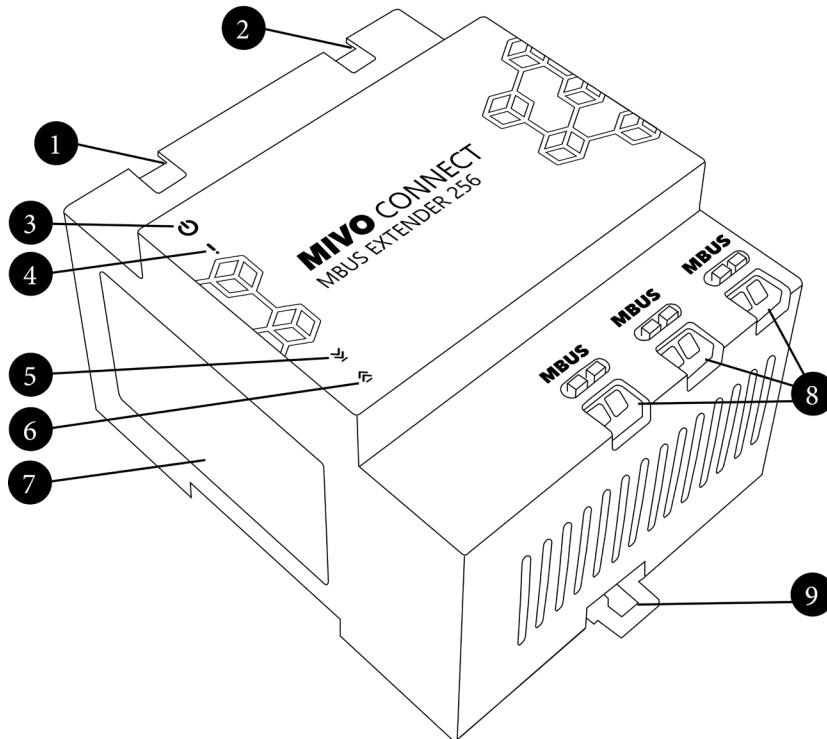

Figure 1 Product description
2. Tilt the product down until the bottom latch snaps in place, if necessary, use a small screwdriver to pull the latch (item 16 in Figure 1) down.
2. Pull the bottom latch (item 16 in Figure 1) down with a screwdriver and tilt the product upwards.